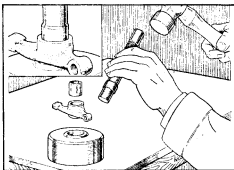

Fig. 12 - Removing and replacing a valve rocker bush
- Place the rocker on the anvil and drive out the worn bush (Fig. 12).